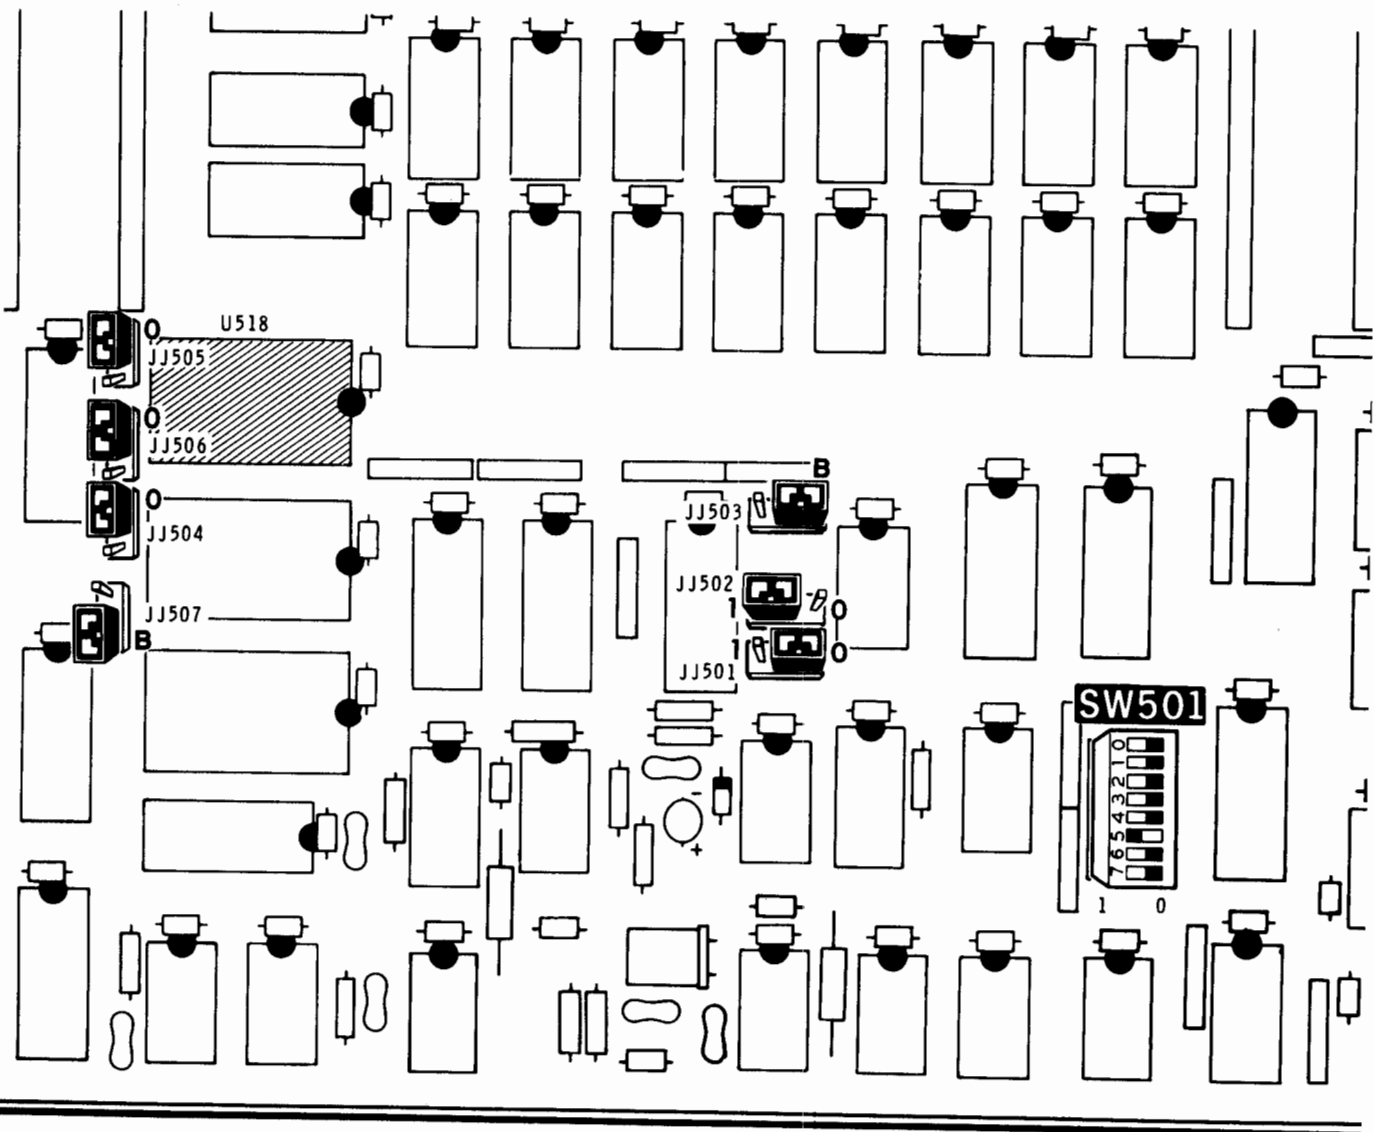

Figure 6-4
The functions that switch SW501 selects are determined by integrated circuit U518. See Figure 6-4.
SW501 switch sections as directed in the next two steps. Then proceed directly to "Programming Jumpers." See Figure 6-4.
- When you boot up from a 5-1/4" hard-sectored floppy disk to enable your 8" floppy disk, set SW501 switch sections as directed in the next two steps. Then proceed directly to "Programming Jumpers." See Figure 6-4.